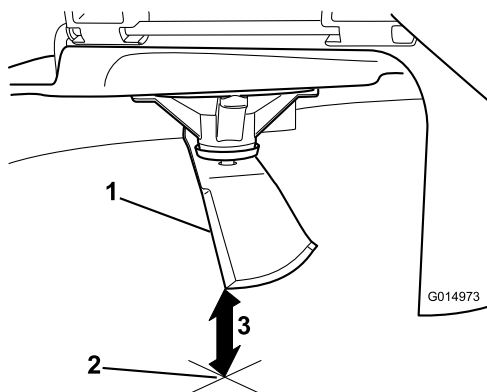

Figure 65
3. Measure from the tip of the blade to the flat surface (Figure 65).